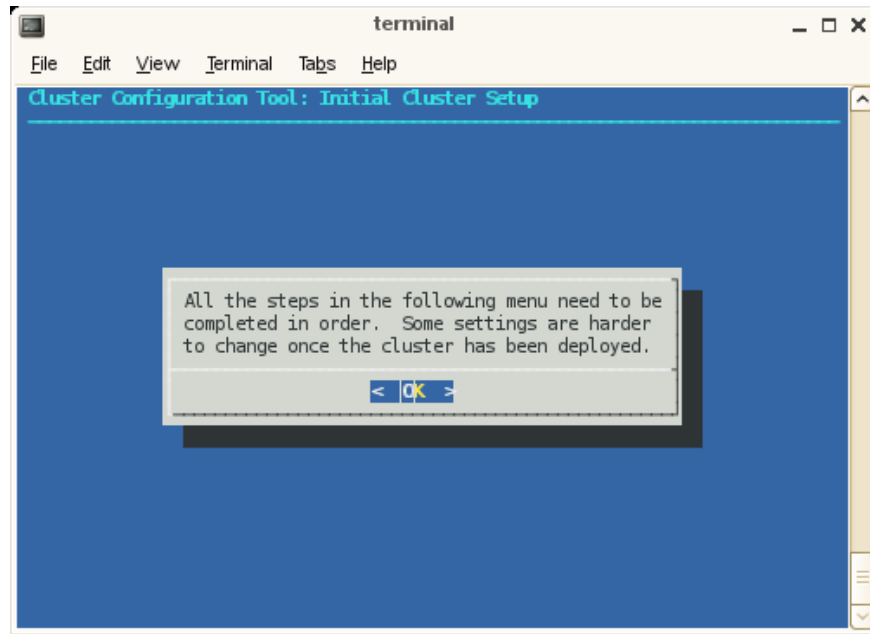

Figure 2-11 Cluster Configuration Tool: Initial Cluster Setup Screen
3. The **Cluster Configuration Tool: Initial Cluster Setup** screen appears, as shown in Figure 2-11 on page 47. Read the notice and then click **OK** to continue.